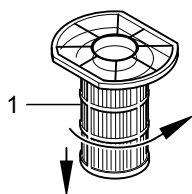

Fig. 21
4. Remove the filter grid (Fig. 21/1) that protects the central laminar filter against coarse dirt. To do this, turn the filter grid in the direction of the arrow and remove it from below.